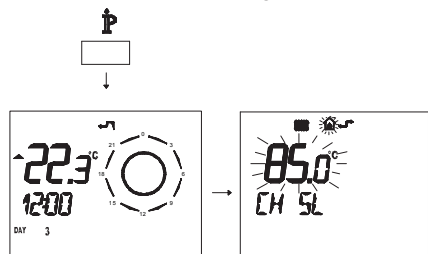

Fig. 8.26
- Press button **IP** for more than 3 seconds to enter in **INFO** mode (Fig. 8.26).